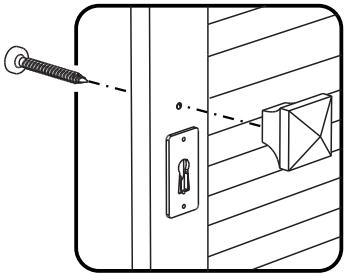

Figure 3
Attach Knobs to Doors (M), (N), (O) and (P) with Wood Screws for Knob. (See Figure 3)